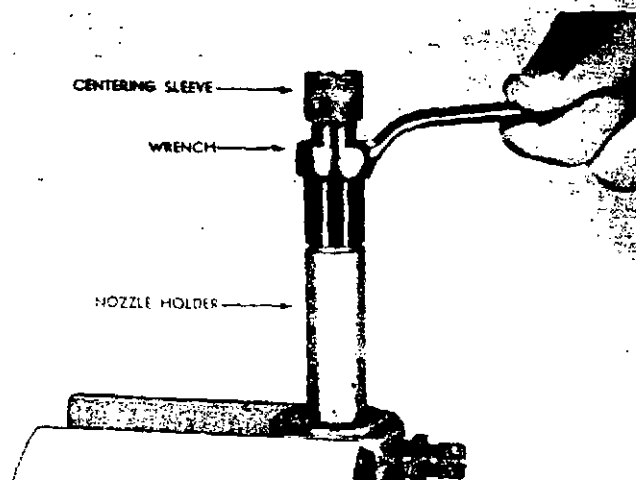

Figure 111B
1. Flush the holder, being sure all passages are clean. Clamp the holder in a vise as shown in Fig. 111B.
3. Place the nozzle in the nozzle cap nut and install on the holder. While the nut is still loose place the nozzle centering sleeve (Fig. 111B) in position and use a box end wrench to partially tighten the nozzle cap nut. Finish tightening the nut with a deep socket and torque wrench. Torque to 60 to 65 ft. lbs. Be very careful not to damage the pintle.